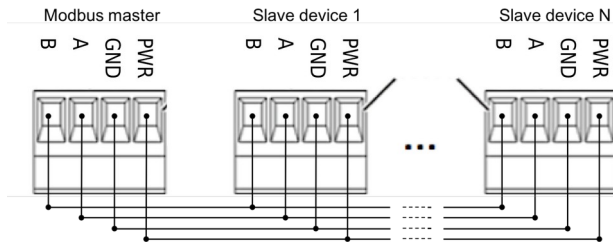

Figure 4: Wiring the Power Meter to the Modbus Master
- ▶ Alternatively, refer to figure 4 for terminal assignments.